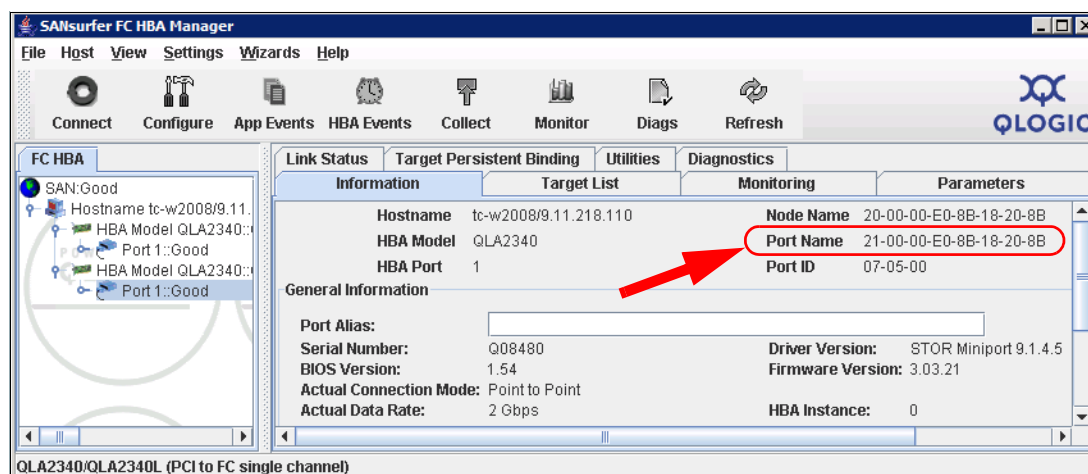

Figure 4-70 Displaying WWPN with SANsurfer
4. In the next window, you need the attachment protocol to specify the host interface type, FC or iSCSI, and the HBA host port information (host port identifier and alias). Remember that the HBA host port identifier is the world-wide port name of the particular HBA. To make sure that you know what your server's HBA WWPN is, use the SANsurfer management tool (which is discussed in 7.11.3, "Qlogic HBAs and SANsurfer (Windows/Linux)" on page 443), as shown in Figure 4-70.